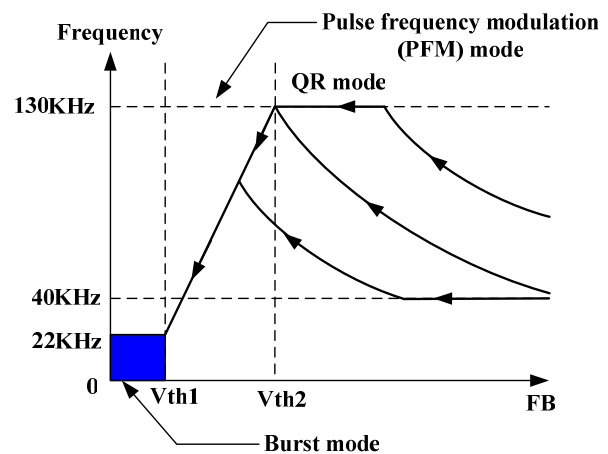

Figure 1
■ Under normal operating conditions ($FB > V_{th2}$, Figure 1), the system operates in QR mode. The frequency variation in QR mode is limited to the range of 40KHz ~ 130KHz due to the fact that frequency varies depending on the line voltage and the load conditions. Therefore, the system may actually work in DCM when 130KHz frequency clamping is reached. In contrast, the system may actually work in CCM when 40KHz frequency clamping is reached. System design should be optimized such that the operation frequency is within the range specified at full loading conditions and in universal AC line input range.
■ At light load condition ($V_{th1} < V_{FB} < V_{th2}$, Figure 1), the system operates in PFM (pulse frequency modulation) mode for high power conversion efficiency. In PFM mode, the “ON” time in a switching cycle is fixed and the system modulates